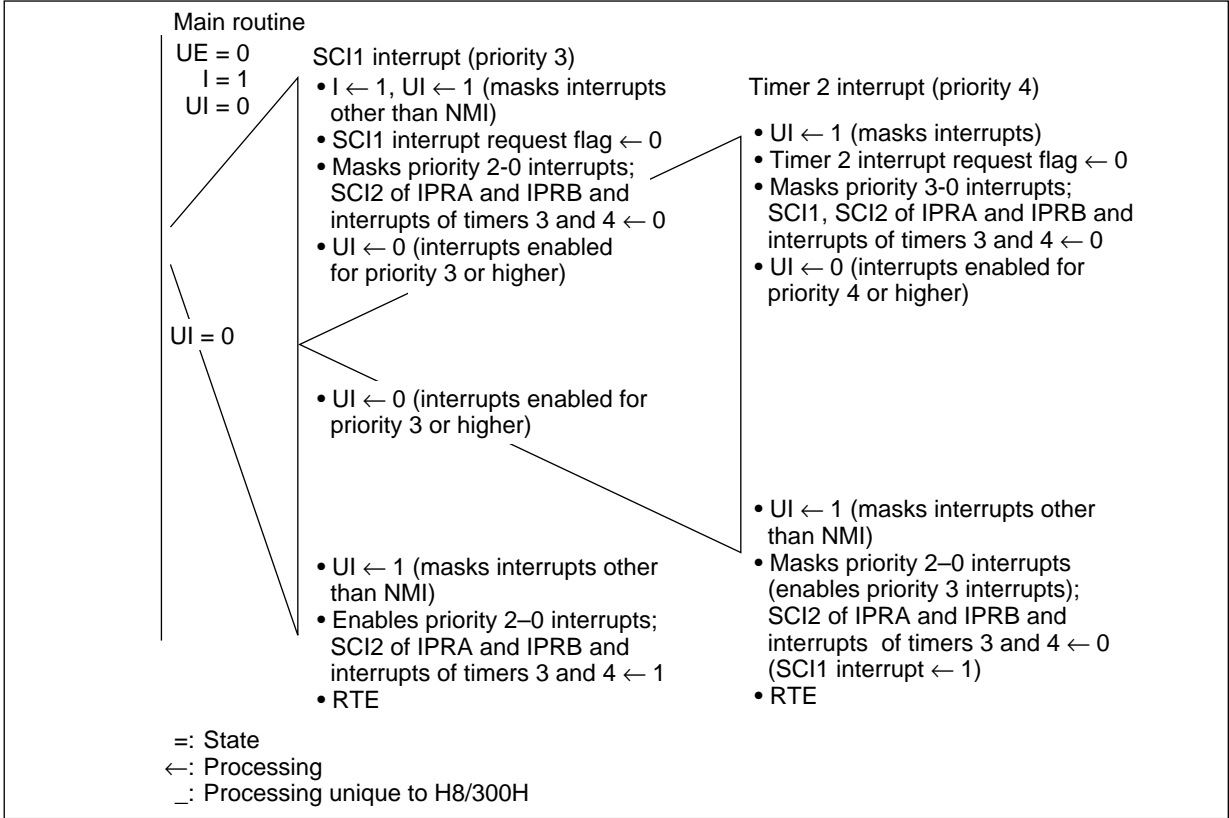

Figure 1.5 Processing Procedures
- Figure 1.5 shows the processing procedures when the interrupt priorities set by the user are as shown in table 1.4.